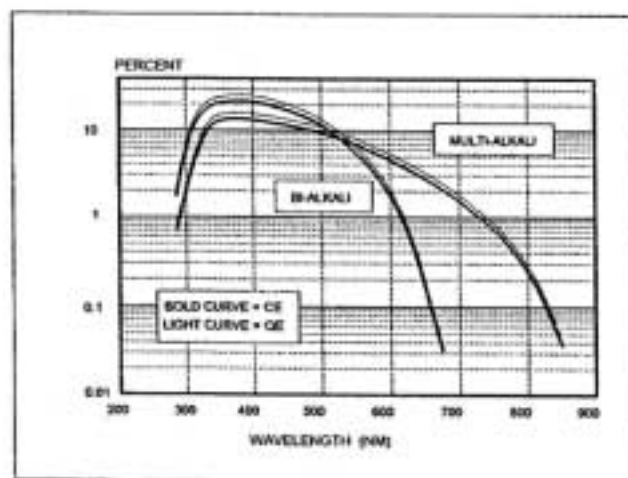

Figure 6. Counting Efficiency Relative to Quantum Efficiency for Bi-alkali and Multi-alkali Tubes
The combined loss due to all of these factors is called the counting efficiency (CE), It is the ratio of the counts coming from the discriminator output to the number of photons in the incoming light flux. Figure 6 shows the typical performance for the bi-alkali and